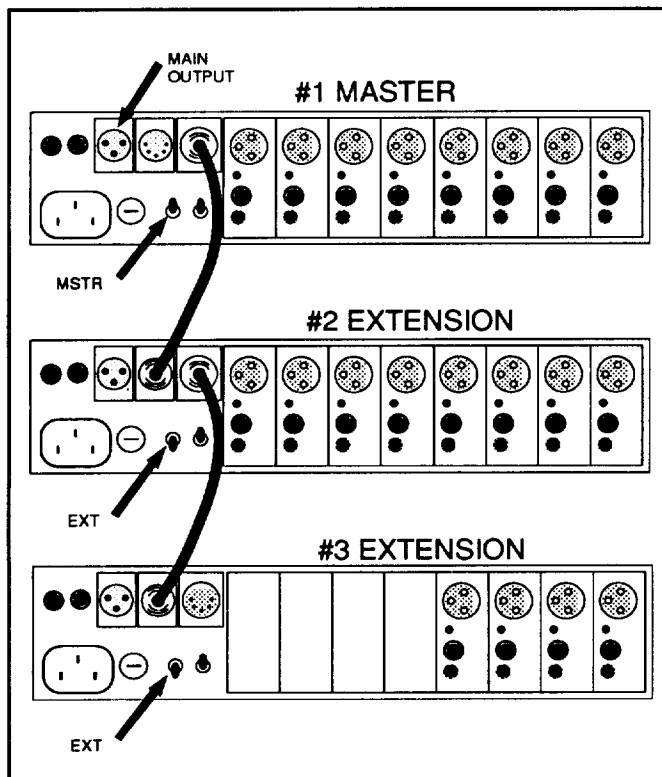
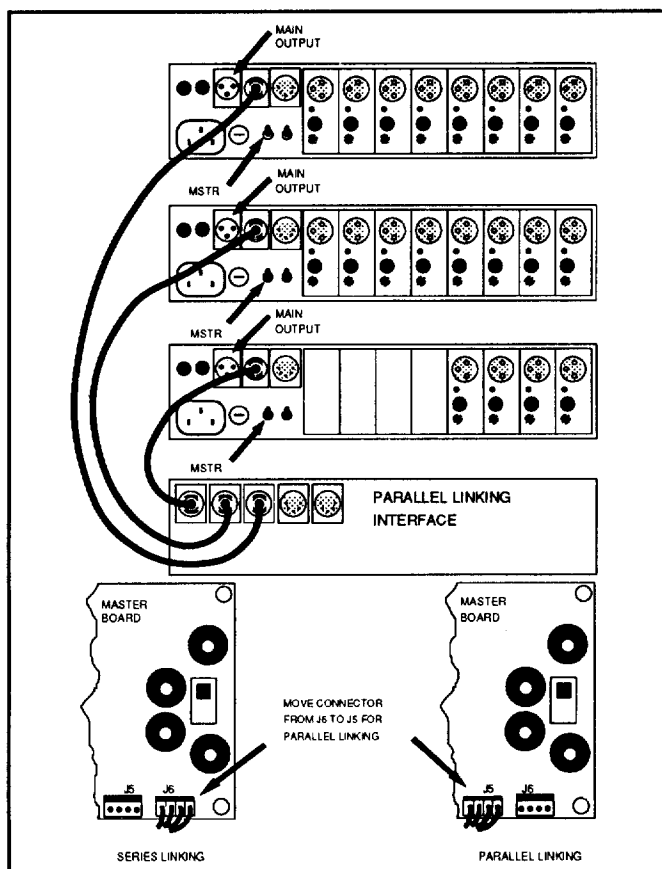
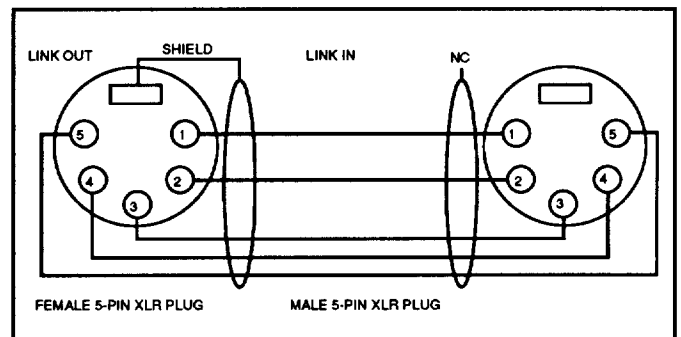

Figure 3: Series Linked Mixer Configuration.
Figure 4: Parallel Linked Mixer Configuration.
Figure 5: Link Cable Assembly.
For systems that require one mixer output and more automatic microphone inputs than are available in one unit, connect multiple mixers together referring to Figure 3. In Figure 3 mixer #1 is set in the master mode and the others in the extension mode. All system inputs are mixed together and the mix is present on the master's main output. Only one mixer in this system can operate as the master. All master level controls on the extension units are inoperable.
Five-way shielded cable with male and female 5-pin XLR-type connectors are used to link each mixer into the system. Refer to Figure 5 for the proper link cable assembly. The LINK IN connector of the first mixer is connected to the LINK OUT connector of the second mixer. This method of interconnection is continued for the remaining mixers. Note that the shield
For systems that require multiple mixer outputs and more automatic microphone inputs than are available in one unit, connect multiple mixers together referring to Figure 4. In the parallel configuration all mixers are set in the master mode. All system inputs are mixed together and the mix is present on all main outputs. Do not configure a parallel linked system for more than five mixers or use linking cable longer than six feet without additional isolation/noise control due to the low signal levels involved. Refer to Figure 5 for the proper link cable assembly. Parallel configurations require construction of an interface described in the Service Instructions. Construction of the interface is somewhat complex and requires interactive parameters affecting the operation be strictly controlled. ALTEC LANSING does not warranty user-built equipment, nor that ALTEC LANSING products will function properly with user-built equipment. Accordingly, it is recommended that appropriate ALTEC LANSING contractors be consulted before attempting construction of the interface. Before connecting each mixer to the interface, an internal connector must be relocated on the Master PC board. Refer to Figure 4 to make this change.
4. **LINK OUT Connector:** The male 5-pin XLR-type connector provides connection to the LINK IN connector of another 1684A when two or more 1684A mixers are series linked to provide for additional inputs channels. Refer to Figure 3 and Section 2.3.1 of this manual. In a parallel linked system, this connector provides connection to the interface unit. Refer to Figure 4 and Section 2.3.2 of this manual.
5. **LINK IN Connector:** The female 5-pin XLR-type connector provides connection to the LINK OUT connector of another 1684A when two or more 1684A mixers are series linked to provide for additional input channels. Refer to Figure 3 and Section 2.3.1 of this manual. In a parallel linked system, this connector is not used. Refer to Figure 4 and Section 2.3.2 of this manual.
10. **Master/Extension Switch:** This switch selects master or extension mode of operation for 1684A mixers in a series linked configuration. The master 1684A mixer controls the output level of the combined system. Only one 1684A in a series linked system may operate in the master mode; the remaining 1684A mixers must be switched to extension mode. See Figure 3. For parallel linked systems, all 1684A mixers should be in the master mode.